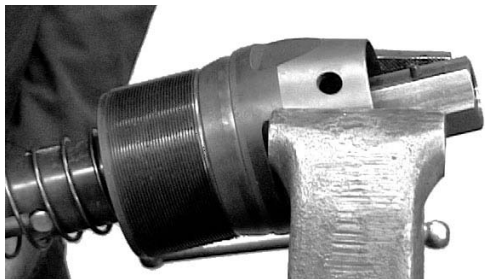

Figure 9-17. Adapter on Valve Stem
- Thread the Adapter (16) onto the Valve Stem (6). Hand tighten the Adapter onto the Valve Stem as shown in Figure 9-17.